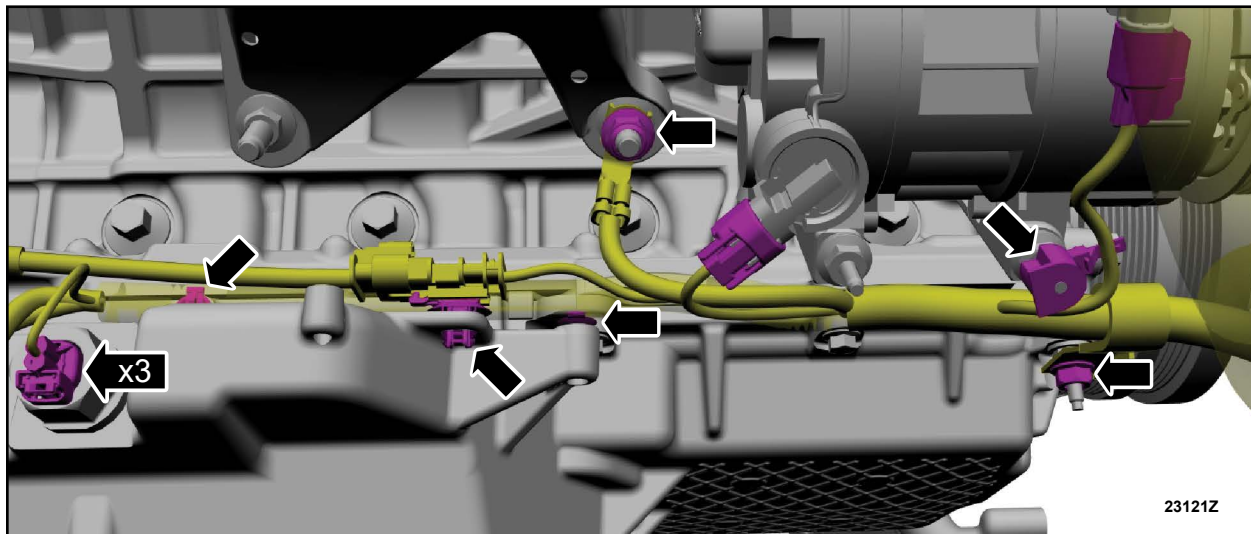

FIGURE 35
18. Remove the nut, disconnect the ground cable, remove the nut, detach the wiring harness bracket from the oil pan stud bolt, disconnect the wiring harness electrical connectors and detach the wiring harness retainers. See Figure 35.